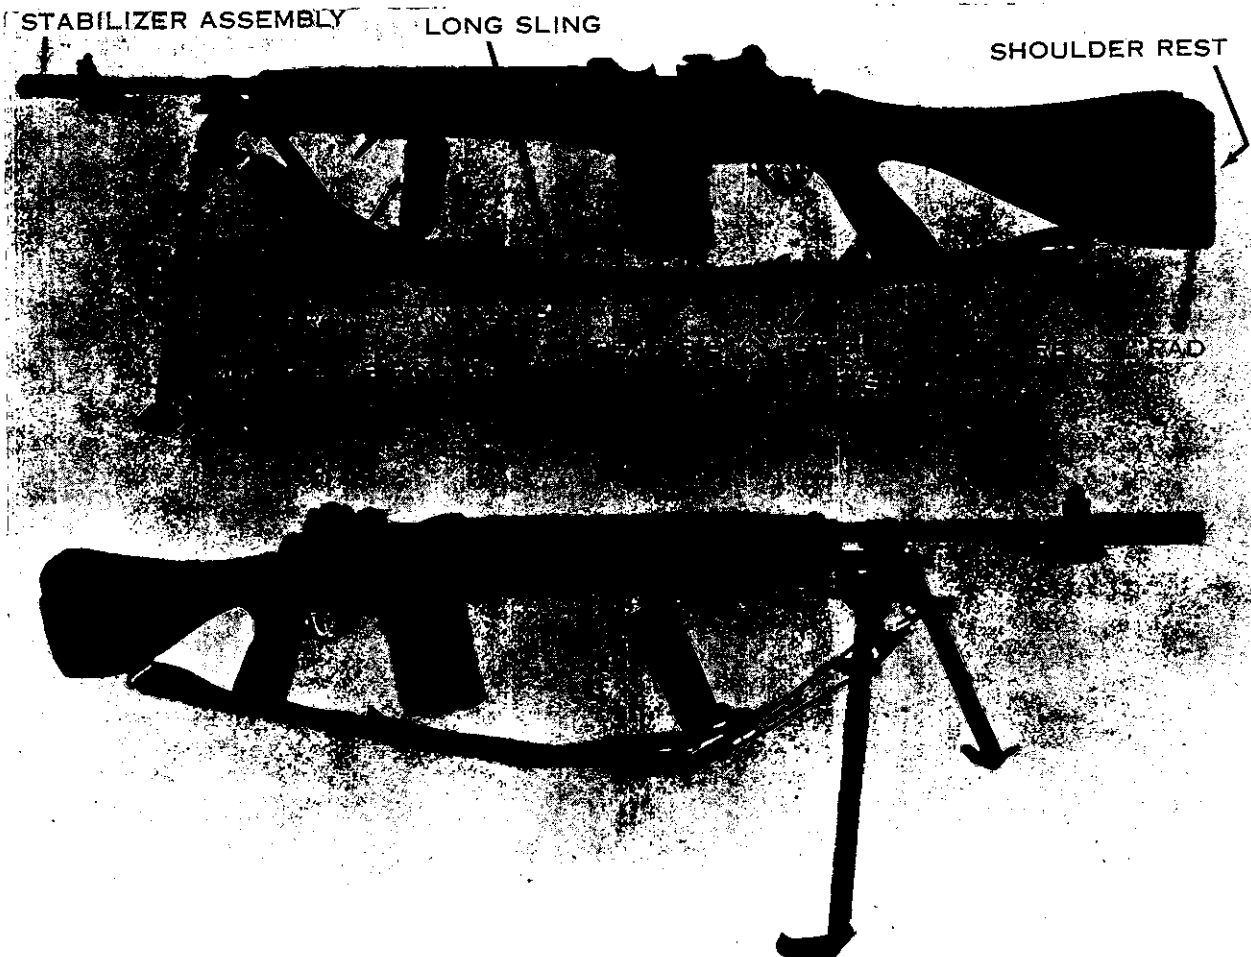

Figure 3. The M14E2 rifle (top—left side view; bottom—right side view).
- (1) The U.S. rifle, 7.62mm, M14E2 (fig. 3) is an air-cooled, gas-operated, magazine-fed, shoulder weapon. It is capable of semiautomatic or automatic fire; however, it is designed primarily for automatic fire. It features a stabilizer assembly, modified bipod, front and rear handgrip, straight line stock, and a rubber recoil pad.
- (2) The M14E2 stock group is the "straight line" type with a fixed rear handgrip and a folding front handgrip which lies flat along the bottom of the stock when not in use. The location of the front handgrip can be adjusted to one of five positions in 1-inch increments to accommodate all gunners. The rubber recoil pad reduces the effects of recoil. The hinged shoulder rest provides vertical control of the butt end of the rifle. The butt swivel pivots 90° to the left for ease of carrying.
- (3) The stabilizer assembly consists of a perforated steel sleeve which slides over the flash suppressor and is fastened to the muzzle over the bayonet lug by a screw and a locknut. The stabilizer provides muzzle stability and reduces recoil.